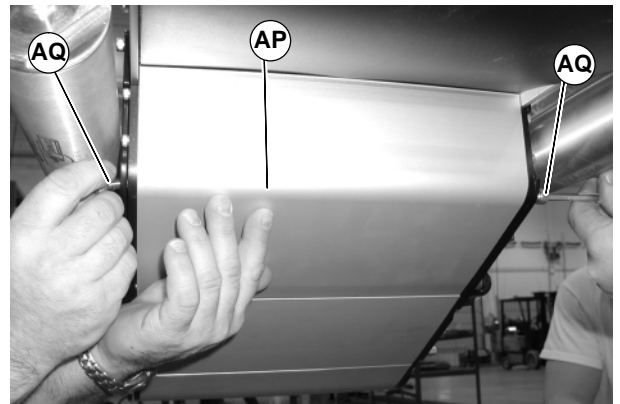

Figure 68
2. Temporarily support idler guard assembly (AP of Figure 68). Remove screws (AQ).